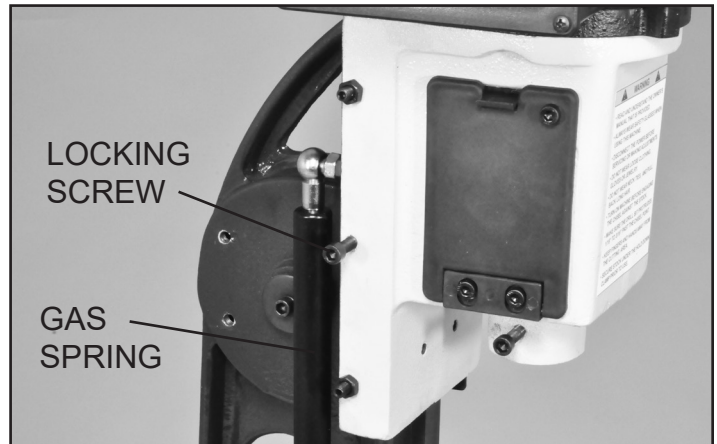

FIG. 1
1. Loosen the locking hex head Screw (Part #64) that is located on the left side of the mortising head, next to the Gas Spring (#57). FIG. 1.